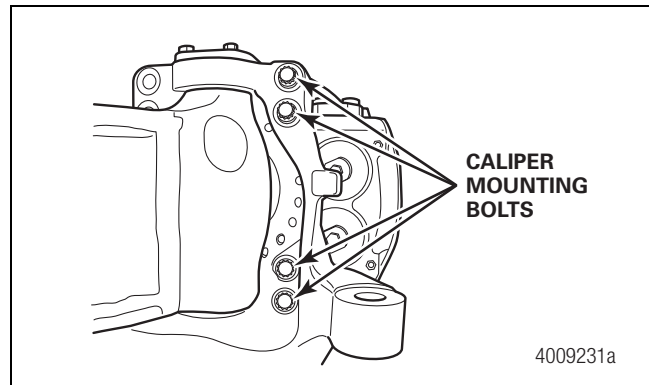

Figure 17.6
- 2. Install the four caliper mounting bolts. Use a 7/8" 12-point socket to tighten the bolts to 504-617 lb-ft (684-836 N•m). Figure 17.6.